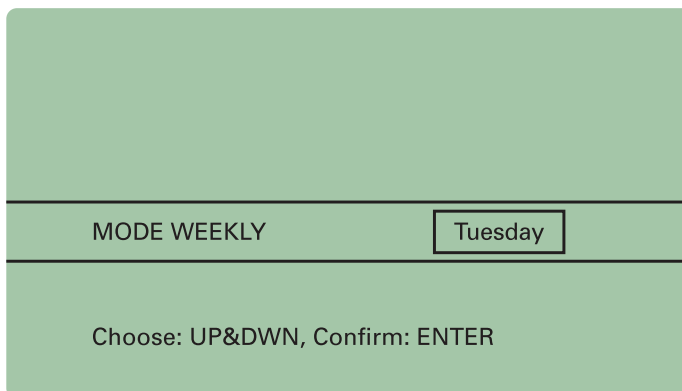

Figure 123. Display: Starting day for the weekly Cold D is selected.
- Use the arrow keys (Fig. 114.5 and 114.6) to scroll through the days from “Monday” to “Sunday” (Fig. 123).